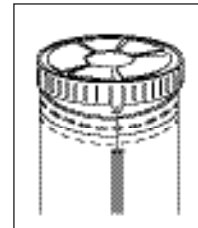

Fig.4
**B) MOUNTING TOP PLATE: (Fig. 4)**